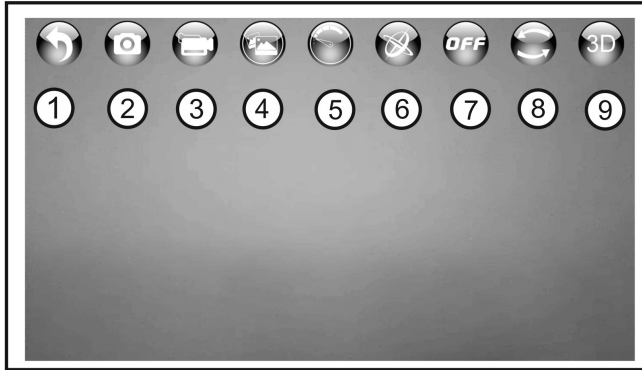

Figure 15
Select "Play" (see figure 13) to open the following operating interface (figure 15).
The App also has a function "3D" (figure 15, item 9). The live view is divided on the Smartphone display for this. In connection with "Virtual Reality glasses" ("VR glasses", not enclosed, must be purchased separately), you can thus perform FPV operation virtually in 3D (i.e. with spatial view). Activate the 3D function in the App and install your Smartphone in the VR glasses. Now put on the VR glasses and start flying.
Additionally, you can take a picture with the quadcopter camera or start a video recording (figure 15, item 3) on the display of your Smartphone before or during operation of the quadcopter by selecting the symbol (see figure 15, item 2).
You cannot use the app to take serial pictures. The camera is activated when you touch the corresponding symbol (figure 15, item 2). A picture will be created after releasing the symbol.
Stop video recording by selecting the corresponding symbol (figure 15, item 3) again.
When you have stopped flying, you can view the first pictures or videos on your Smartphone right away. For this, choose the corresponding symbol on your Smartphone (figure 15, item 4). The following screen appears.